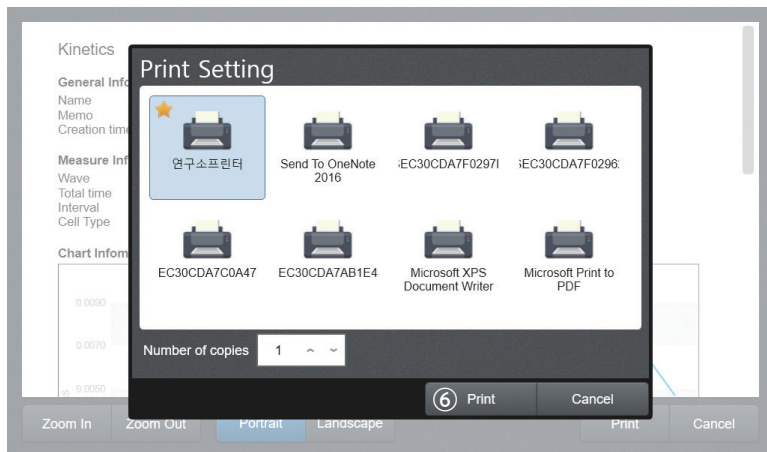

Fig. 6.14
11. [Fig. 6.14] Set the printer and number of pages to print on the printer settings screen.
12. [Fig. 6.14] Press the ⑥ **Print** button to start printing.